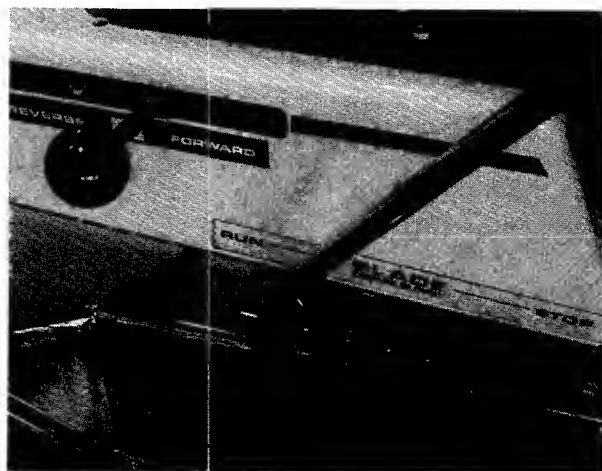

FIGURE 5
The lift and disengagement lever is used to raise and lower the mowing deck (See Fig. 5). When the lever is in the DISENGAGE position the blades WILL NOT revolve. When it is necessary to drive the mower over a small obstruction such as a clump of dirt or a root, place the lift and disengagement lever in DISENGAGE position. This will raise the deck and the blades will stop revolving automatically.
**STOPPING BLADES FROM REVOLVING** - With your right hand move the lift lever to DISENGAGE position (See Fig. 5). It can be held in this position by depressing it all the way down and moving it to the left. This operation will stop the blades from rotating as well as raise the mowing deck. The lift lever should be in this position when traveling to and from the work area.